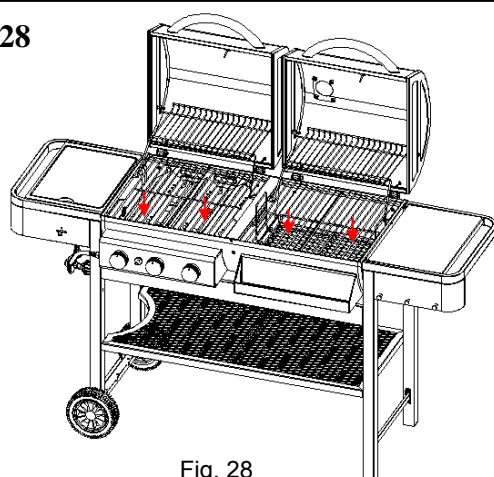

Fig. 28
*Locate :* (4) Cooking Grids
*Procedure:* Refer to Fig. 28 and place (4) Cooking Grids into their position in the Grill.